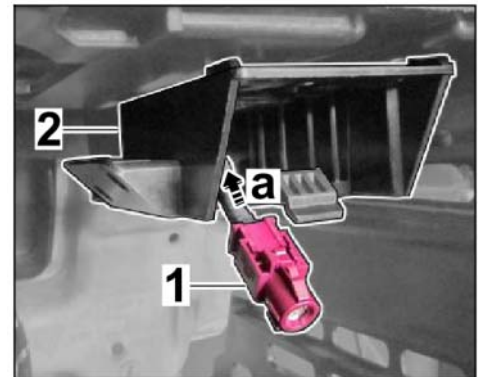

Figure 16
- 5.3.2 Pull back connecting line ⇒ *Figure 16-a*- until the violet connector ⇒ *Figure 16-1*- is at the USB/iPod control unit holder ⇒ *Figure 16-2*-.